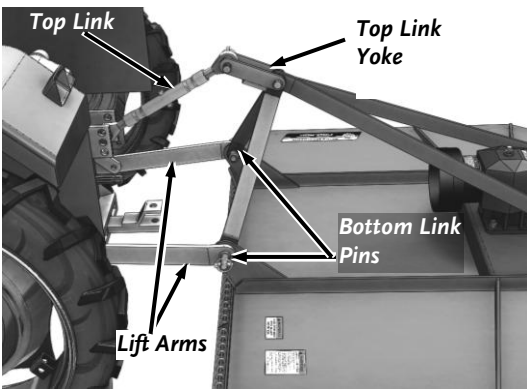

Figure 10
1. Position the Lift Arms of the Tractor to the Bottom Links of the Brush Mower and secure using the Linch Pins (Figure 10).